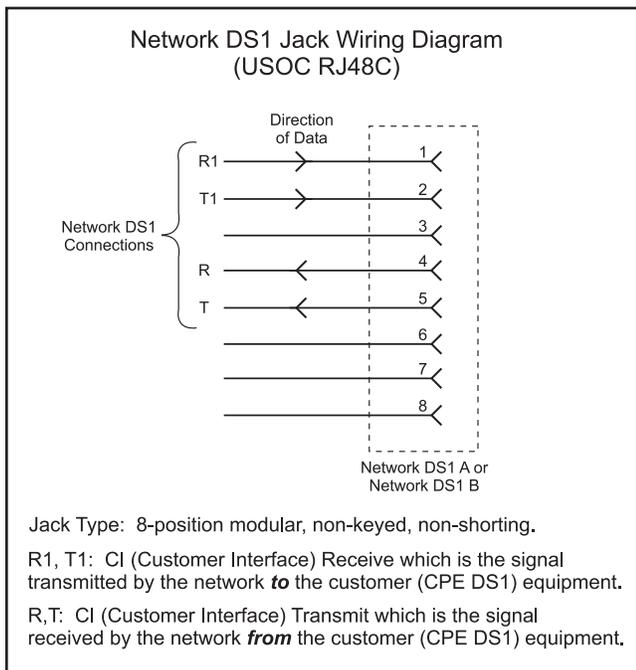

Figure 2-11. Network DS1 Jack Wiring (USOC RJ48C)
- As mentioned in Chapter One, T1 Robbed Bit and ISDN PRI circuits use DS1 facilities to send and receive the actual data. Ensure that each T1 Robbed Bit or ISDN PRI network circuit is terminated on an 8-position modular jack wired as USOC RJ48C. Ensure the CPE DS1 circuits are terminated on 8-position modular jacks wired to mate with an RJ48C using modular data cables. Figures 2-11 and 2-12 show the wiring for the network DS1 and CPE DS1 jacks. For further details, refer to “Network DS1 and CPE DS1 Terminating Jacks,” in Chapter One. For convenience, 8-position modular jacks are included in the installation kit.